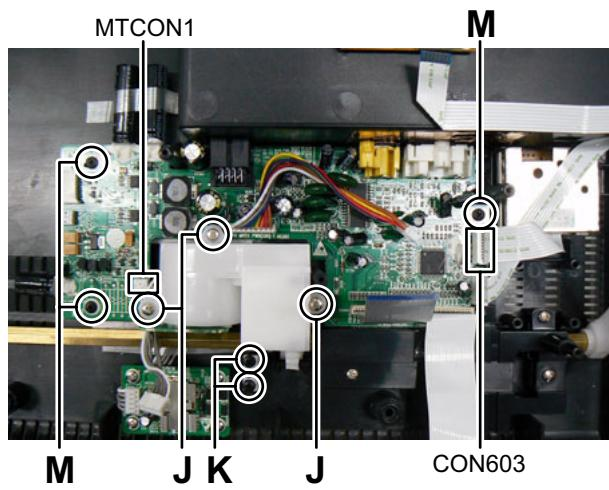

Fig.11
- (2) Remove the three screws **J** and two screws **K** attaching the DC motor. (See Fig.11)
- (3) Disconnect the connector wire from DC motor connected to connector MTCON1 of the Main board. (See Fig.11)
- (4) Disconnect the card wire from Tuner pack connected to connector CON603 of the Main board. (See Fig.11)
(6) Remove the three screws **M** attaching the Main board. (See Fig.11)